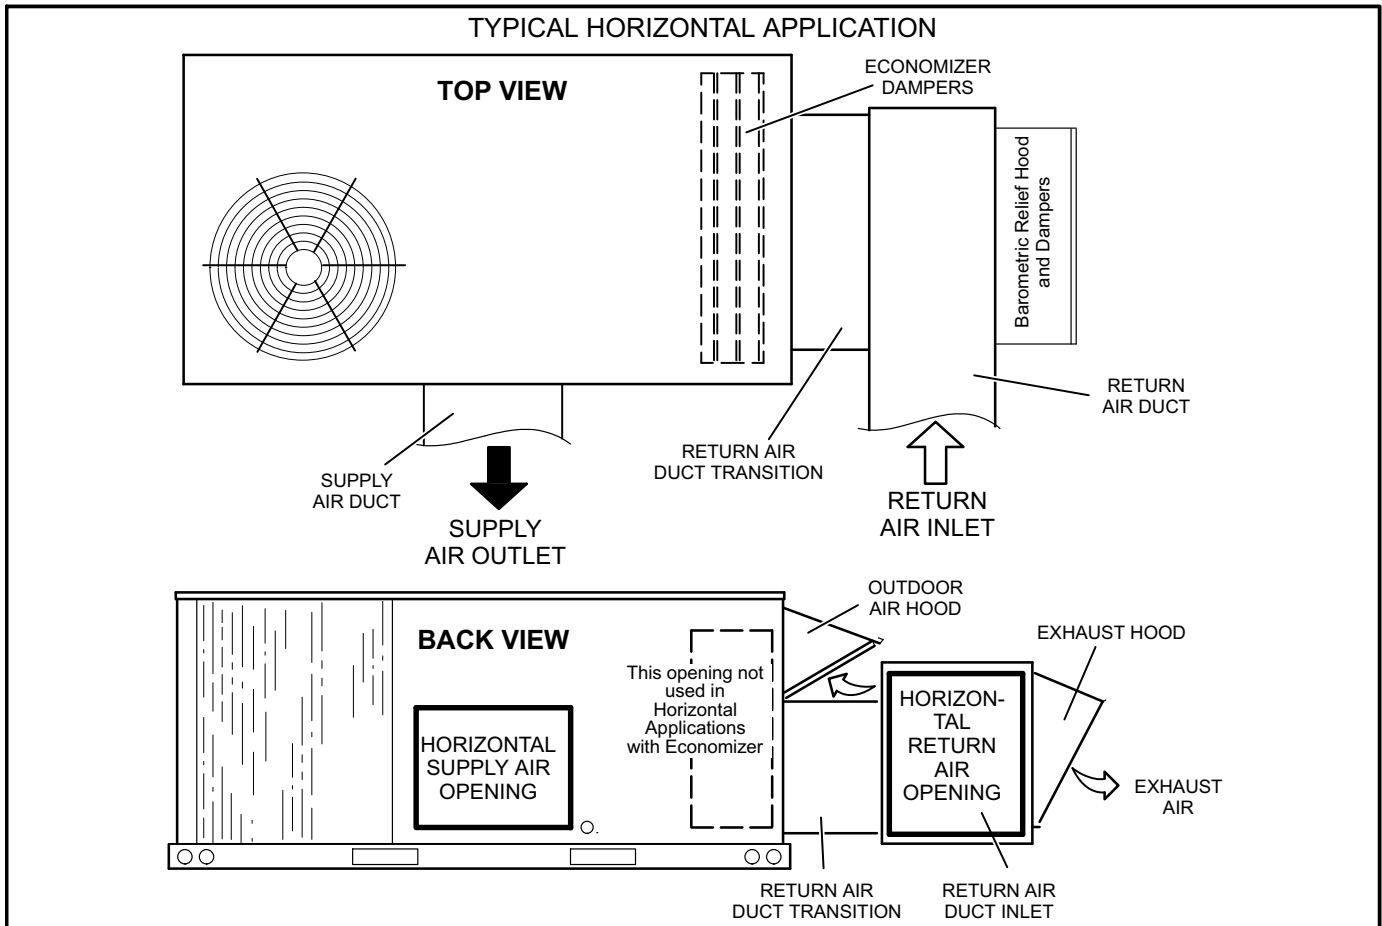

FIGURE 16
- 5- Install the field-fabricated return air duct transition and duct inlet on the unit end. See figure 16. Support the transition and duct inlet as needed.